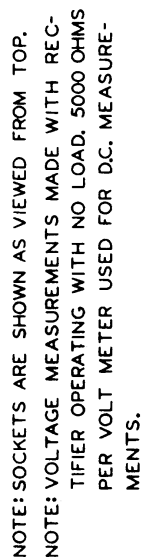

Figure 10. Rectifier RA-43-B, tube socket voltage diagram.
a. The plate power transformer T 56, and the filter choke RF 38 are mounted on the steel base plate BP 32 which is supported by four rubber shock mounts FT 6. Also fastened to the base plate is a rubber-supported tube socket platform on which sockets for all operating and spare tubes are mounted (fig. 10). The three filter capacitors C 5 and the power factor correcting capacitor C 3 are attached to the top of the filter choke.